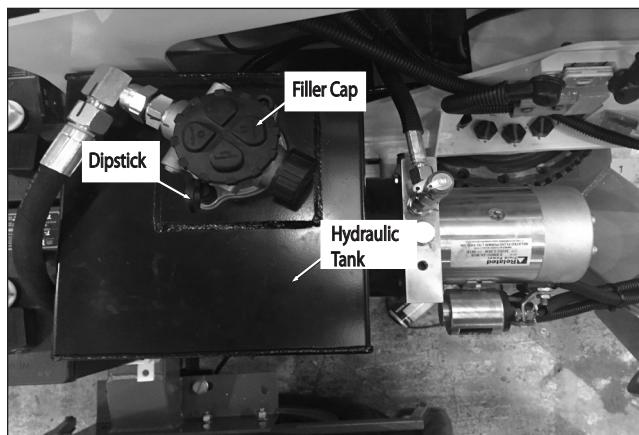

Figure 8.4 – Hydraulic Tank
- Make sure the aerial platform is fully stowed on a level surface. Swing out the hydraulic cover and visually check the fluid level using the dipstick (refer to Figure 8.4). Some machines may have a fill cap with a dipstick. The fluid must be visible on the dipstick.